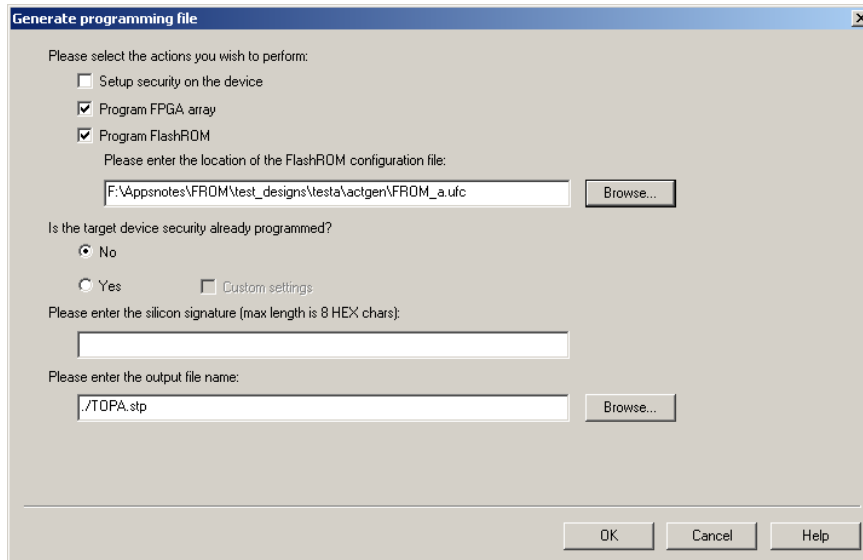
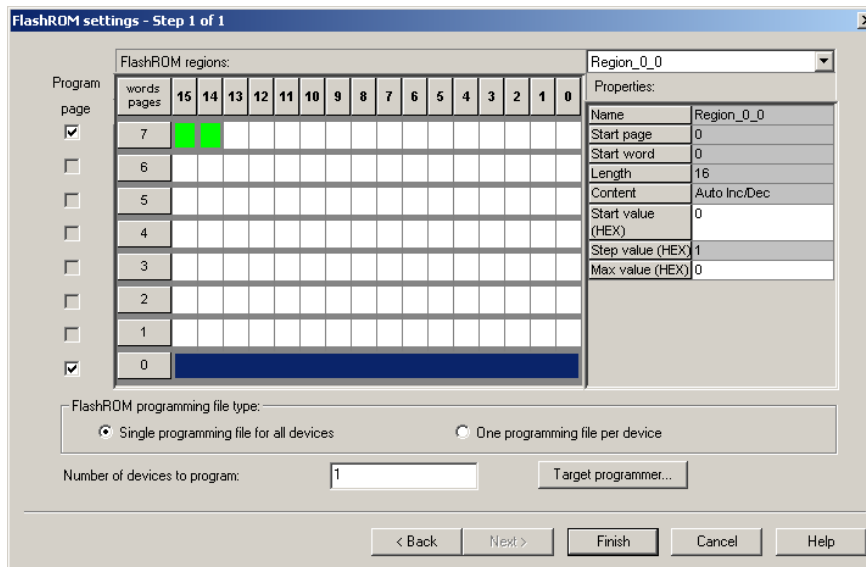

Figure 5-12 • Programming File Generator
Figure 5-13 • Setting FlashROM during Programming File Generation
Figure 5-12 shows the programming file generator, which enables different STAPL file generation methods. When you select **Program FlashROM** and choose the UFC file, the FlashROM Settings window appears, as shown in Figure 5-13. In this window, you can select the FlashROM page you want to program and the data value for the configured regions. This enables you to use a different page for different programming files.
3. Select **Programming File in Designer** and open **Generate Programming File** (Figure 5-12 on page 128).
4. Click **Program FlashROM**, browse to the UFC file, and click **Next**. The FlashROM Settings window appears, as shown in Figure 5-13 on page 128.